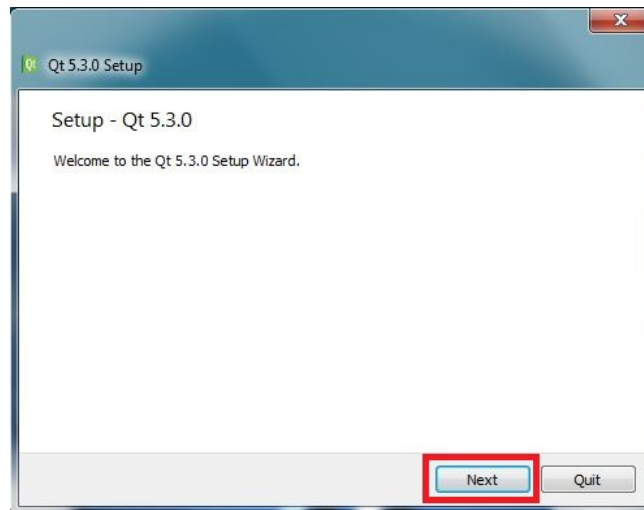

Figure 4-1. Qt Creator IDE Installation
3. Click the Next button as shown in Figure 4-1.